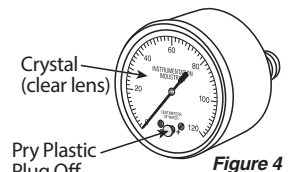

Figure 4
1. Carefully pry out **Plastic Plug** from the crystal (clear lens). (Figure 4)